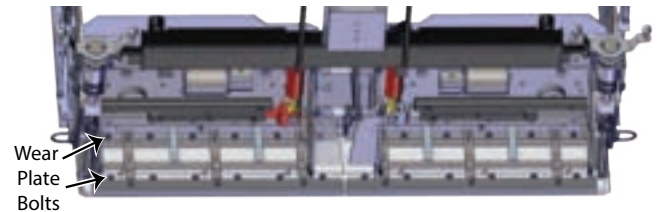

Figure 5-42. Wear Plate Bolts
6. Remove both rows of bolts holding the wear plate to the bottom of the screed. **(Figure 5-42)**